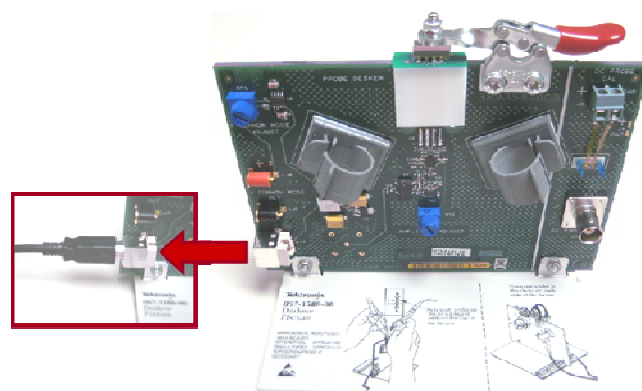

Figure 2: Powering the Deskew Fixture
1. Connect the deskew fixture to a USB power source as shown in Figure 2 with the other end of the USB cable plugged into the oscilloscope.